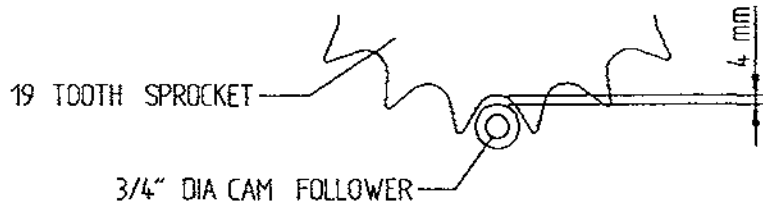

Fig 12
- (i) That the gap between the sprocket and cam follower is 4mm (fig 12.). To adjust this remove shims under the quadrant assembly.